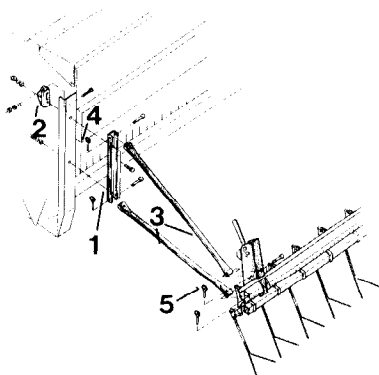
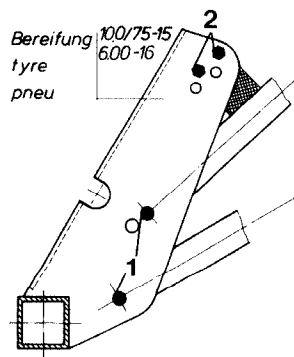

Fig. 31
Fig. 32
- Mount the upper channel iron (Fig. 31/1) with the reinforcement angle (Fig. 31/2) to the seed box.
- The extra coverage harrow has to be bolted with two bolts according to Fig. 32/1 to the carrying tubes (Fig. 31/3) and secured by lynch pins (Fig. 31/5).
- The swing metal buffer has to be fitted according to Fig. 32/2.
- The carrying tubes (Fig. 31/3) now should be fitted to the upper channel iron (Fig. 31/1) with pins and lynch pins (Fig. 31/4).